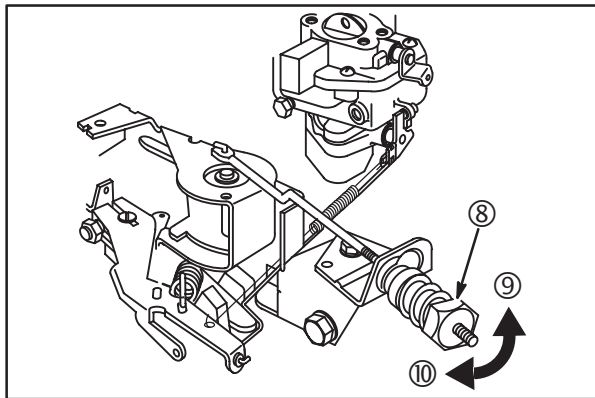

Fig. 41
10. Engage fixed speed adjustable control nut (8) and adjust to Regulated No-Load RPM for the type of generator listed in Table 1, **Fig. 41**.
- a. Turn nut **CLOCKWISE** (10) to increase speed.
- b. Turn nut **COUNTERCLOCKWISE** (9) to decrease speed.